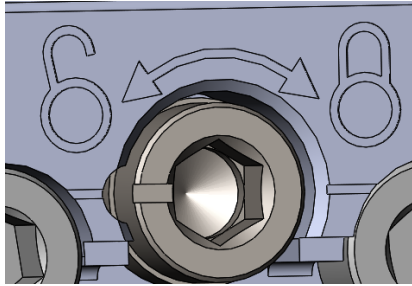

Figure 4: Locking Lug "Unlock" Position
5. Ensure the barrel lock screw is in the "Unlocked" position, and the three barrel retention screws are loose. (Figure 4)